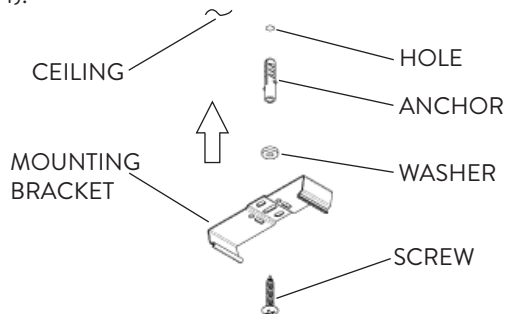

FIG. 4
- 2 Install the FSLA/2 fixture Mounting Brackets flush to the Ceiling by securing with plastic twist resistant Anchors, Washers, and Screws (Fig. 4).